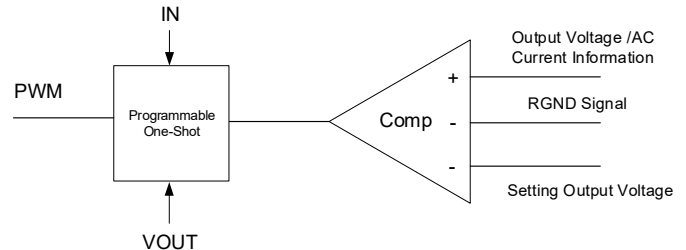

Figure 4. Simplified Control Schematic
The simplified control schematic is shown in Figure 4. The high-side switch on-time is determined solely by a one-shot whose pulse width is inversely proportional to input voltage (IN). The one-shot is triggered when the internal setting output voltage is higher than the combined information of output voltage and the AC current information of inductor and load line signal, which is processed and obtained through the sensed low-side MOSFET current once it turns-on. The added AC current information can help the stability of constant-on time control even with pure ceramic output capacitors, which have very low ESR. The AC current information has no DC offset, which does not cause offset with output load change, which is fundamentally different from other V^2 constant-on time control schemes.